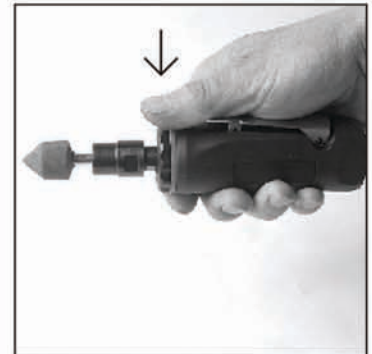

Figure 5
6. Push forward the lever block (Part #4) and press down on the lever trigger (Part #3). How far the lever trigger is pressed determines the tool rotation speed. Then the tool starts to work. (See Figure 5)